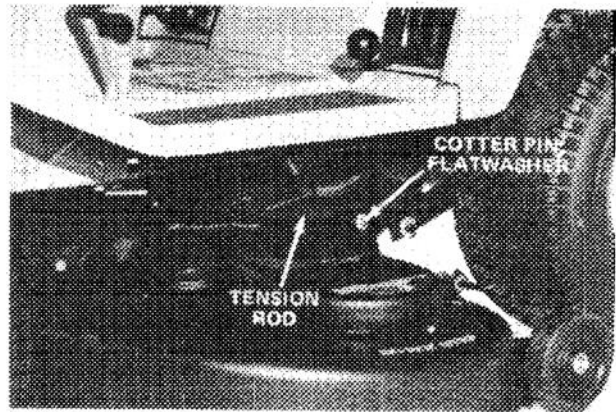

Figure 32
4. Remove cotter pin, flat washer and tension rod from each rear clevis pin (Fig. 32).